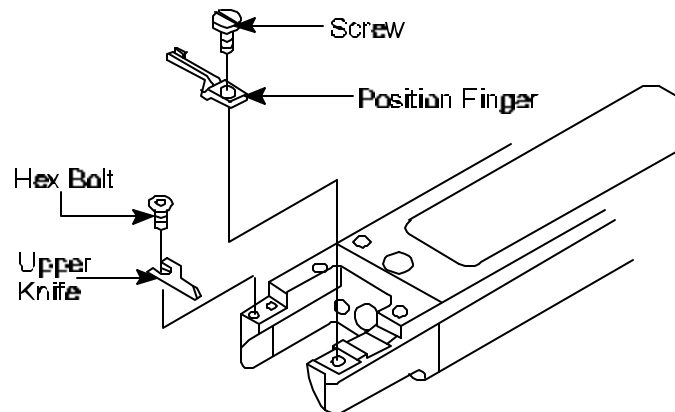

Figure 1
5. Using 2 mm Allen Wrench, **remove** Upper Knife hex bolt (**MK 4 Trimmers** only apply). See Figure 1.